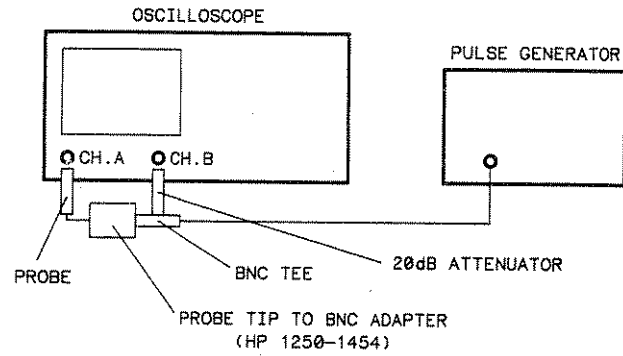

Figure 6. High-frequency Compensation Test Setup
4. Connect equipment as in figure 6.